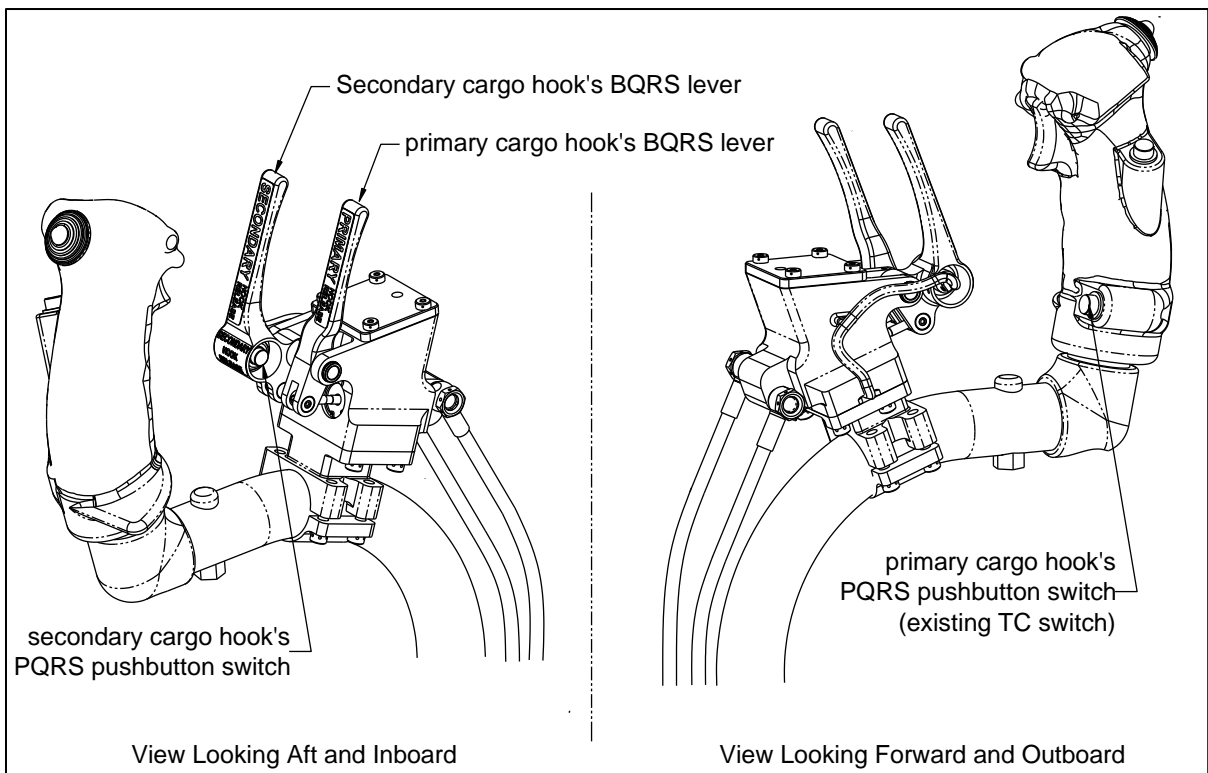

Figure 5.2 Dual Master Cylinder - Cargo Hook Controls
4. A primary quick release sub-system (PQRS) and a backup quick release sub-system (BQRS) for each of the cargo hooks including controls integrated into a dual master cylinder (see Figure 5.2) on the cyclic. The primary cargo hook's PQRS interfaces with the existing Bell type certificated switch on the cyclic (not shown).